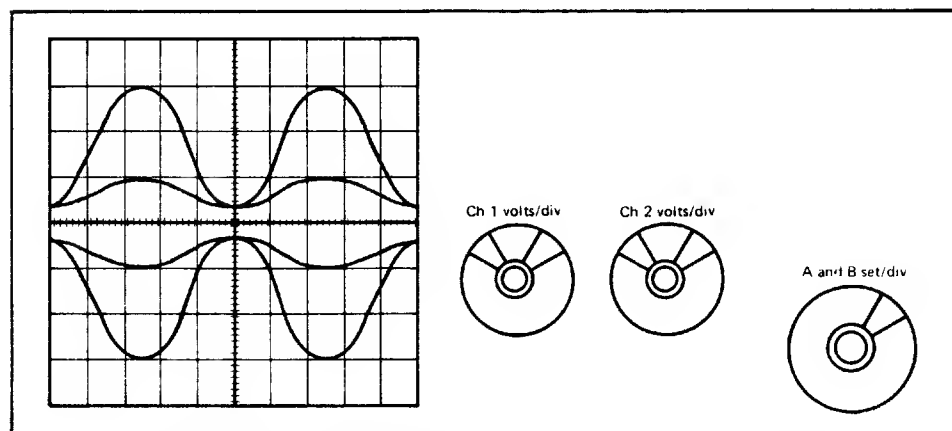

FIGURE 6-17. OSCILLOSCOPE CAT-EYE PATTERN FOR RADIAL HEAD ADJUSTMENT
- 6.4.3.8 Rotate the stepper motor until the lobes of the cat-eye pattern on the oscilloscope are equal. (See Figure 6-17.)